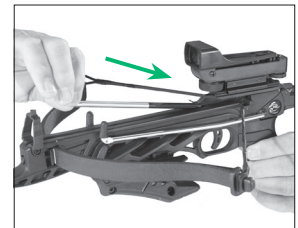

FIGURE 10
4. Grip the arrow near its point on the opposite end to the fletching. The crossbow may be loaded by keeping all hands and body parts out of the path of the bowstring and in the safe loading area (Fig. 10). Keep your hands, fingers and all other body parts out of the travel path of the string and cables at all times. The crossbow is designed so that the user never needs to place a body part into the path of the crossbow string. Failure to follow this warning could lead to serious injury or death.
6. Slide the arrow/bolt back to the trigger assembly, under the arrow/bolt retention spring, until the arrow/bolt nock rests fully on the string. (Fig. 10)